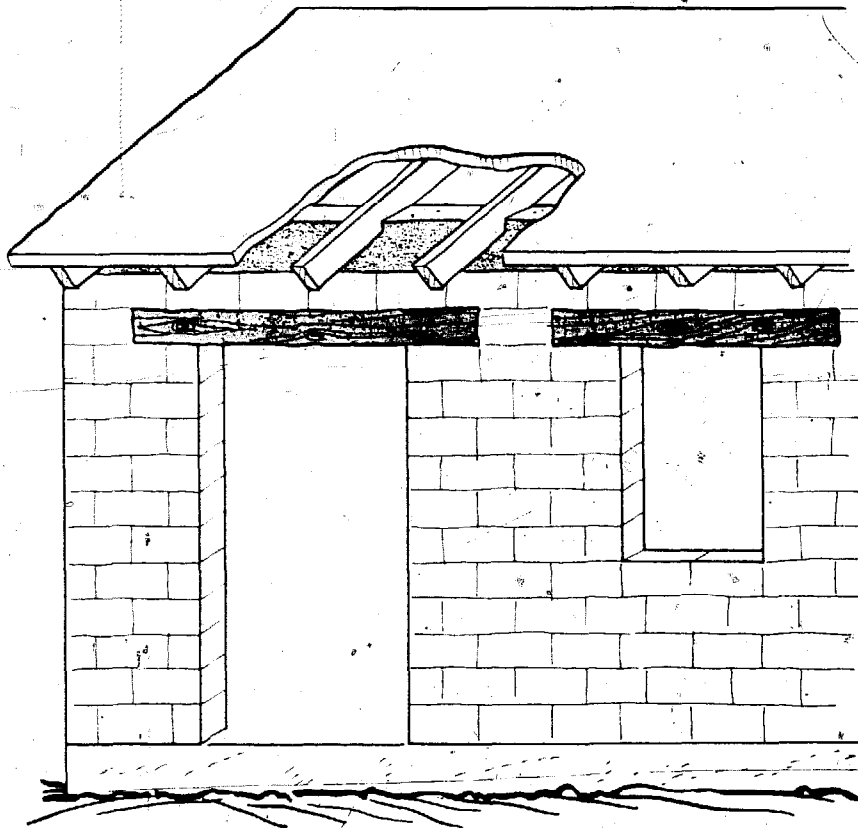
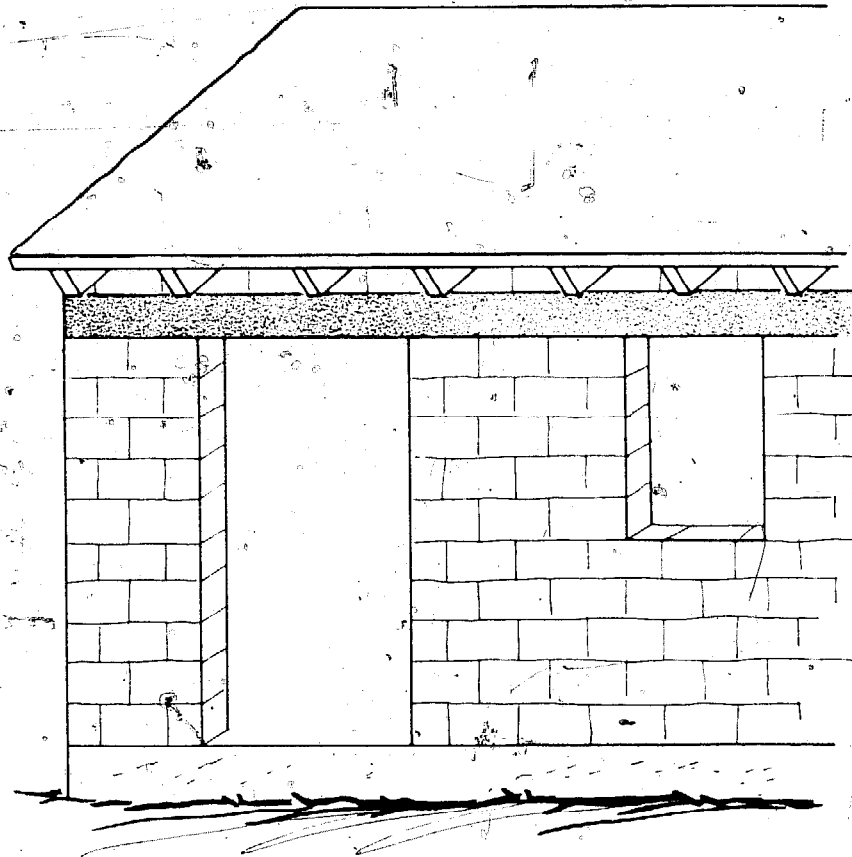
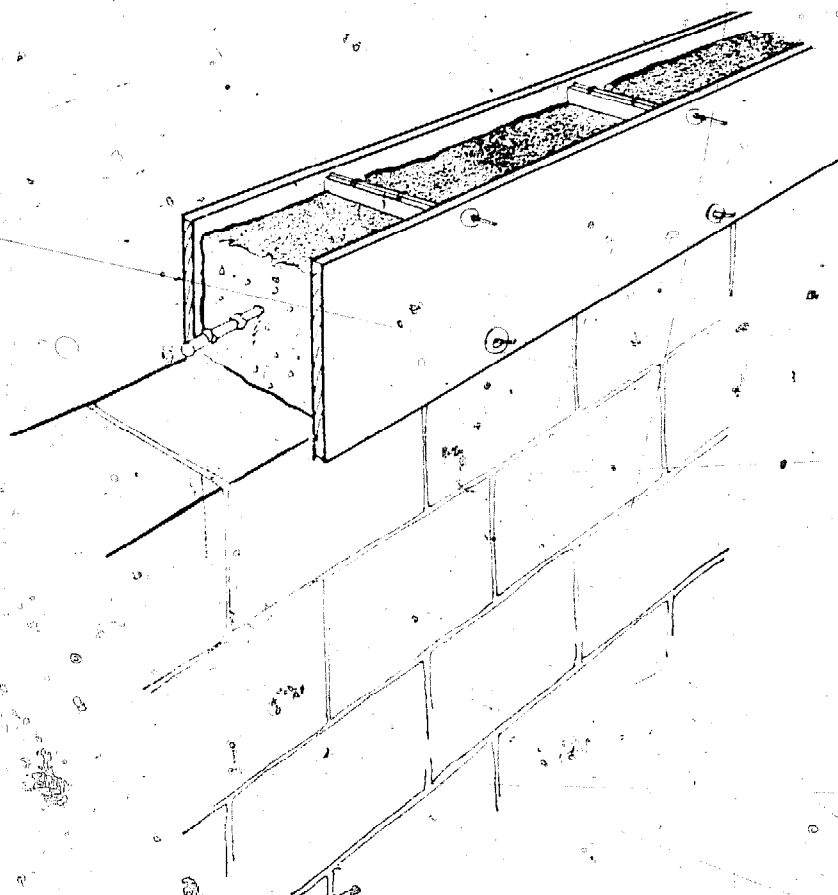

Figure 68. This shows how timber lintels are used above doors and windows. Above the lintels (in the cut-out section) is shown a concrete bond beam.
Figure 70: This shows a combination bond beam and lintel, made from reinforced concrete, that can be used, on low-ceiling houses.
Figure 71. Forms like this can be used to pour concrete bond beams and lintels in place in the wall.
**LINTELS**—The weakest spot in any house is over the doors and windows. A beam or other reinforcing cross piece called a lintel should always be used above these openings as shown in Figure 68. The lintel must be strong enough to support construction loads, as well as the weight of the blocks above. A large timber or a reinforced concrete beam makes a good lintel. (Fig. 95 in Appendix A gives some thicknesses of lintels that can be used for various conditions.) The lintel should be at least as thick as the wall so that blocks laid on top of it will be fully supported. They should also project out on either side of the door or window for a distance at least
**BOND BEAMS**—Bond beams (sometimes called tie beams or perimeter beams) are used to reinforce the top of the earth wall against loads from the roof. (See Figure 68.) The beam distributes the roof load and ties the top of the walls together. If a low-ceiling house is being built, the bond beam can also serve as the lintel as shown in Figure 70. Bond beams should be the same thickness as the wall and preferably be tied to the wall with bolts or some other type of projection. The beams may either be wood or reinforced concrete. Wooden bond beams should be placed over a thin layer of mortar on top of the last course of blocks. Concrete bond beams (and lintels also) can be poured in place on top of the completed earth wall as shown in Figure 71. Make the forms strong so they will not bulge. If you are using a timber frame roof, set bolts in the fresh concrete for holding the roof down.